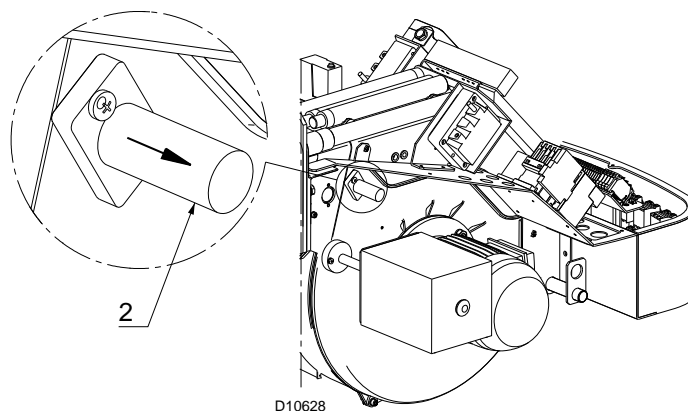

Fig. 56
- extract the UV scanner 2)(Fig. 56);